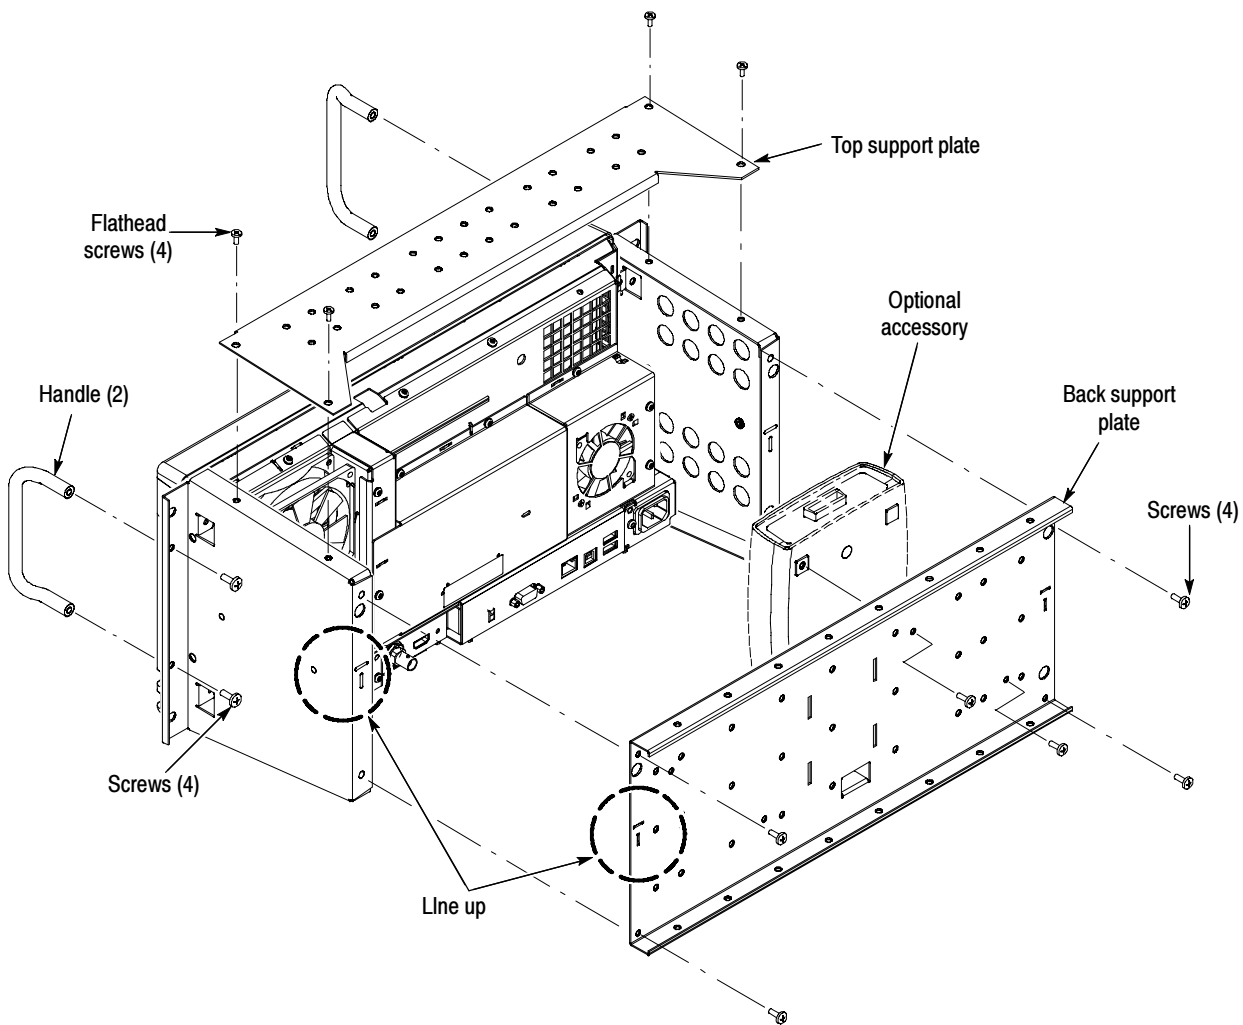

Figure 6: Installing the handles, top, and back support
2. Install the two handles using four 10-32 x 0.25 inch pan head T-25 TORX-drive screws tightened to 16 in-lb. Handles should curve towards the sides of the instrument. See Figure 6.
in the back support plate with the slots in the mounting plates. Tighten screws to 8 in-lb. See Figure 6.
NOTE. The back support plate and top support plate have holes to facilitate mounting optional accessories. For example, Figure 6 shows the TEK-USB-488 GPIB to USB Adapter mounted to the back support with screws. (You can also use nylon straps to mount accessories.)
4. Install the top support plate on the left and right mounting plates using four 6-32 x 0.250 inch flathead T-10 TORX-drive screws tightened to 8 in-lb. See Figure 6.